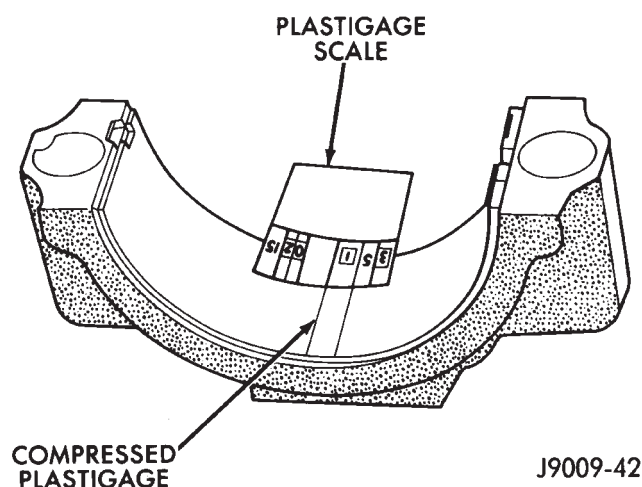

Fig. 19 Measuring Bearing Clearance with Plastigage
(7) Remove the bearing cap and determine amount of bearing-to-journal clearance by measuring the width of compressed Plastigage (Fig. 19). Refer to Engine Specifications for the proper clearance. **Plastigage should indicate the same clearance across the entire width of the insert. If the clearance varies, it may be caused by either a tapered journal, bent connecting rod or foreign material trapped between the insert and cap or rod.**